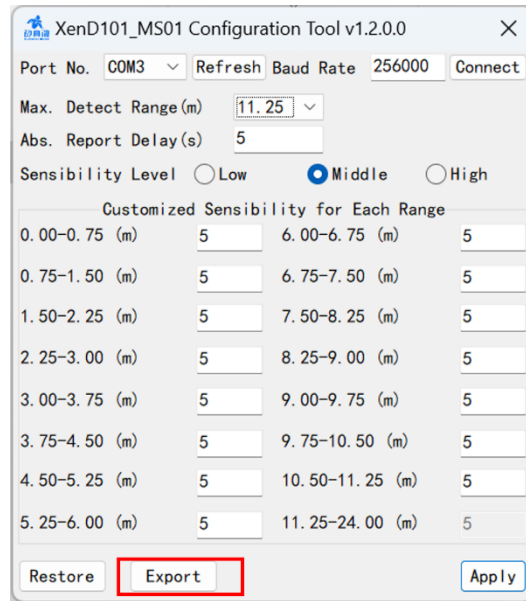
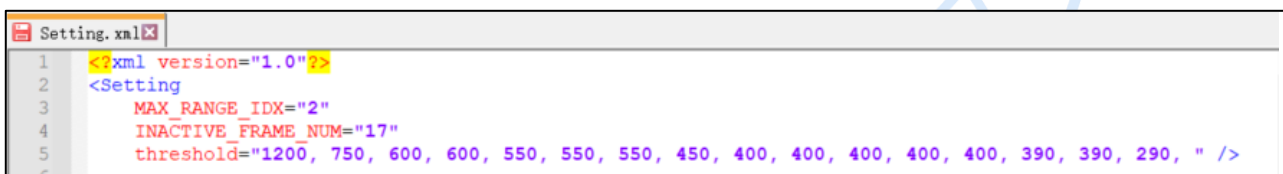

Figure 4-4 Export button on XenD101MS configuration tool
Figure 4-5 XenD101MS default setting
After setting up the parameters via the visualization tool, export the configuration file by clicking on *Export* button on the GUI, as is marked in Figure 4-4. The generated configuration file, *Setting.xml*, is saved in the same directory with the visualization tool. Figure 4-5 shows the default setting of XenD101MS firmware.
Descriptions of the parameters listed in Figure 4-5 are as follows.
- **MAX_RANGE_IDX** and **INACTIVE_FRAME_NUM** are defined in `Middleware\common\src\radar.h`, while **threshold[PEAK_TH_NUM]** is defined in `Middleware\common\src\radar.c`. Developers can modify these variables in `radar.h` and `radar.c` using the exported configuration file shown in Figure 4-5, then re-compile the firmware and program it into XenD101 to complete the consolidation.